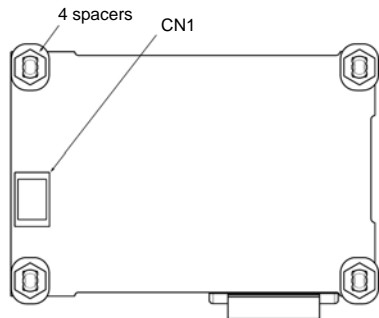
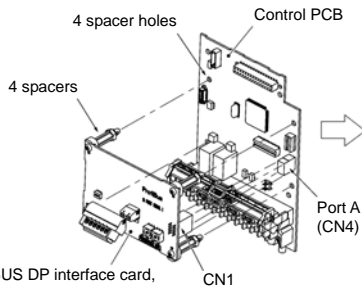

Figure 2 Back of the Card
Figure 8 Mounting the Card
- (2) Insert four spacers and connector CN1 on the back of the OPC-F1-PDP (Figure 2) into the four spacer holes and Port A (CN4) on the inverter's control printed circuit board (PCB) (Figure 8), respectively.